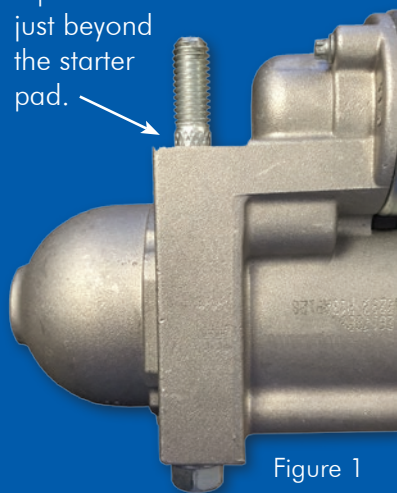

Figure 1
- Taper (Bolt Length):** Between the knurl and the threads is a taper. The bolt length should result in a small amount of the knurl and the taper protruding beyond the starter pad. *(Figure 1)* The engine block is machined to accommodate the knurl and taper to maintain starter alignment.